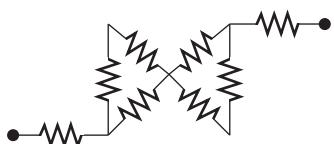

FIGURE P3.8 Circuit for Problem 3.8.
- 3.8 (A)*** Find the R_{eq} in Figure P3.8, given that every resistor has an equal resistance, R (the center crossing is connected).